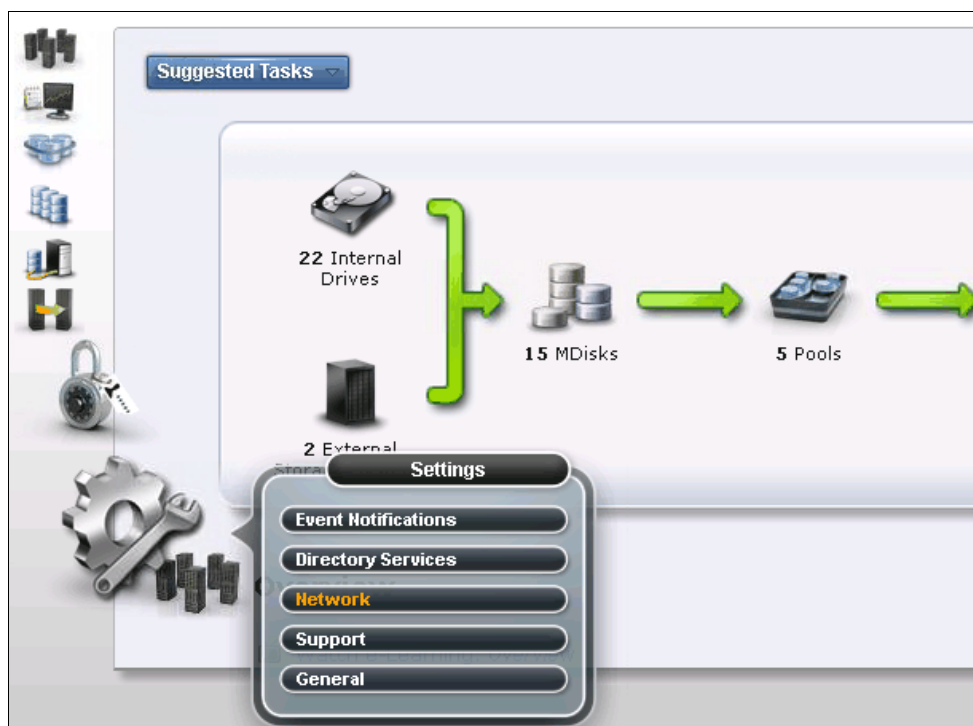

Figure 4-30 Configuration: Network
1. Switch to the Configuration window and select **Network** (Figure 4-30).